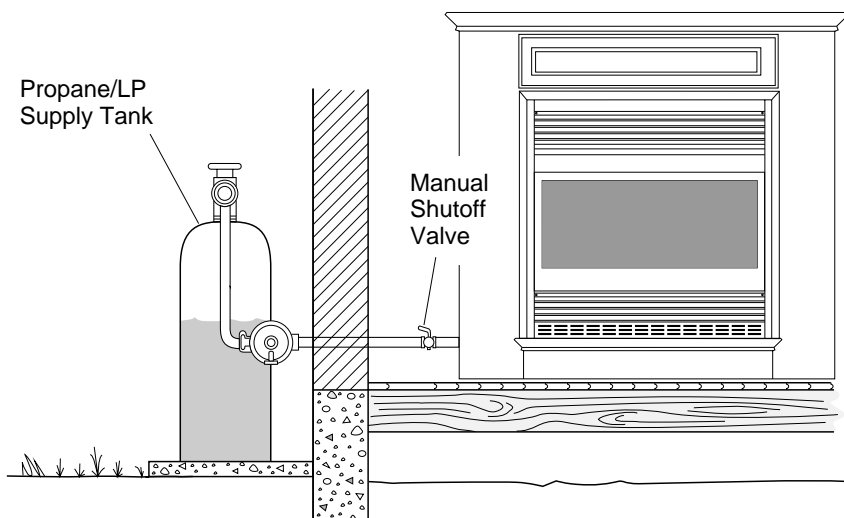

Figure 27 - Checking Gas Joints Shown with Optional Mantel
3. Check all joints from propane/LP supply tank to manual shutoff valve (see Figure 27). Apply mixture of liquid soap and water to gas joints. Bubbles forming show a leak.